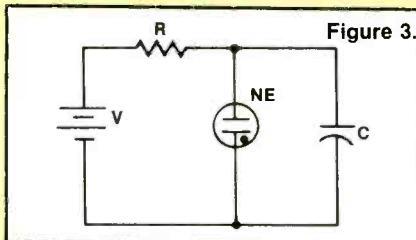

Figure 3.
4. In a dark room, the neon lamp of Figure 3 flashes at a rate of 80 pulses per second. If you take it into a brightly lighted room, the number of flashes per second will be